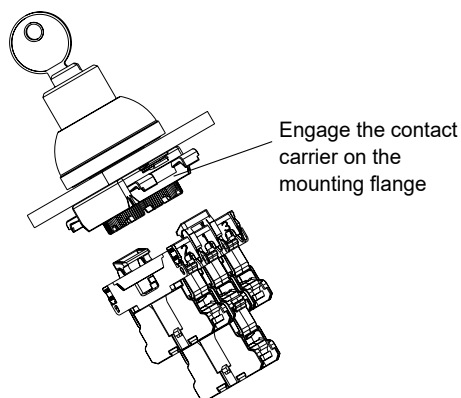

Fig. 3
3. Assembly of the pre-assembled contact carrier onto the mounting flange (see Fig. 3): engage the contact carrier on one side of the mounting flange. Then repeat this process on the opposite side.